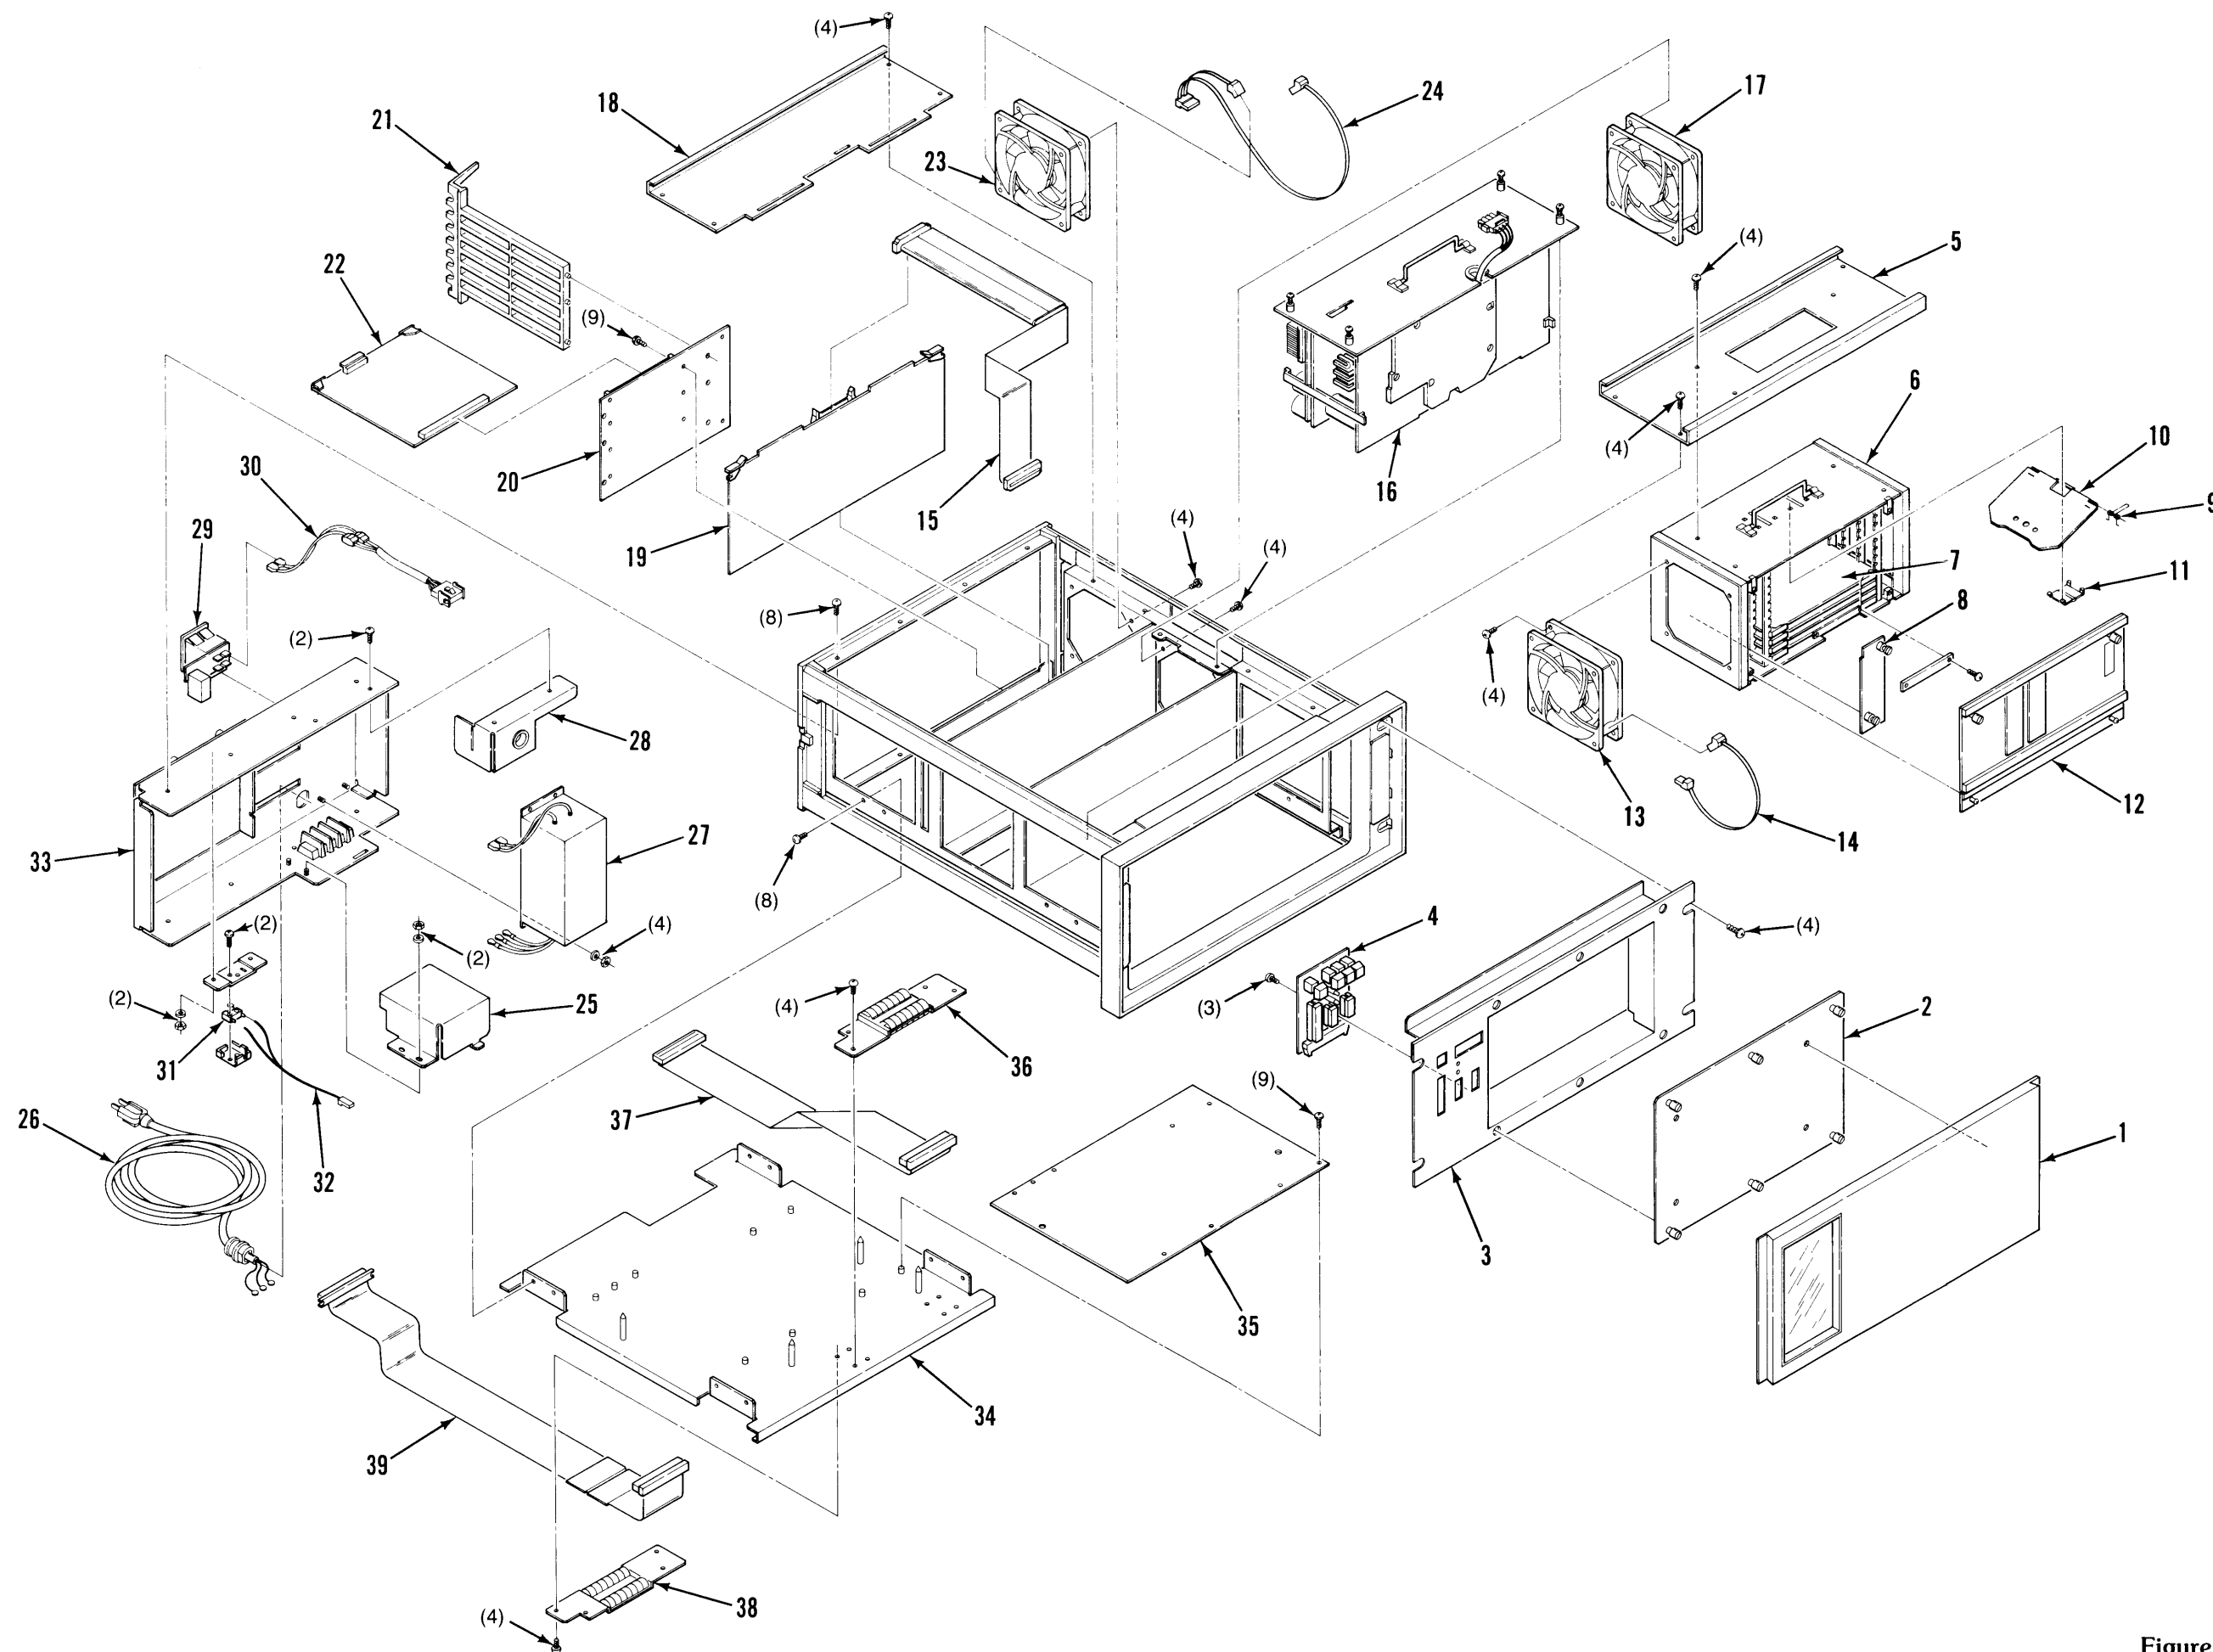

Figure 5-2. Exploded View #2
**Table 5-4. Parts List (Figure 5-2)**
Table 5-4. Parts List (Figure 5-2), Continued